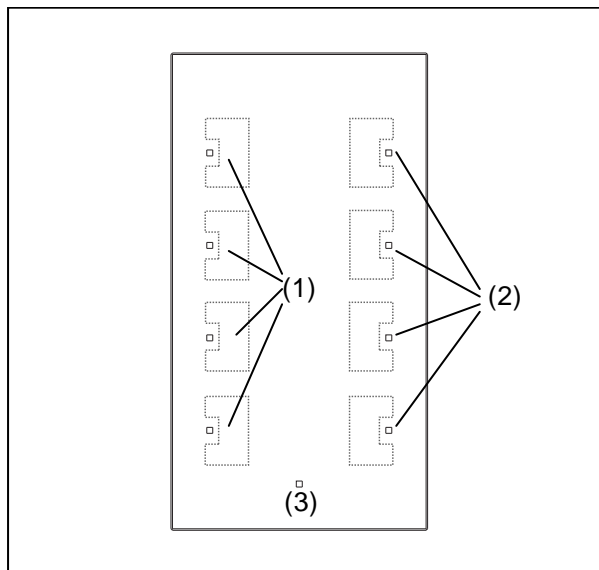

Figure 1: Front view
- Touch a sensor surface (Figure 1, 1).